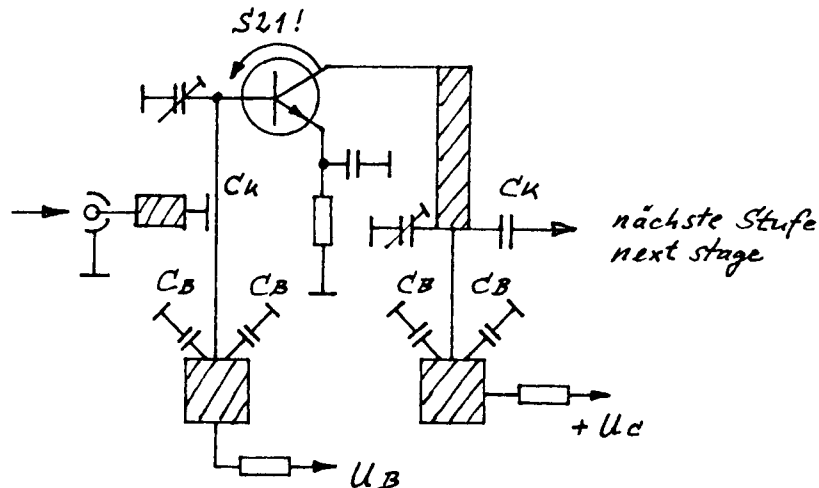

Fig. 2
E.: You see in Fig. 2 that Lambda/4 lines can operate on their half operationfrequency especially if they are good grounded on their "cold" end. Because of the higher gain on the half operationfrequency, a nice